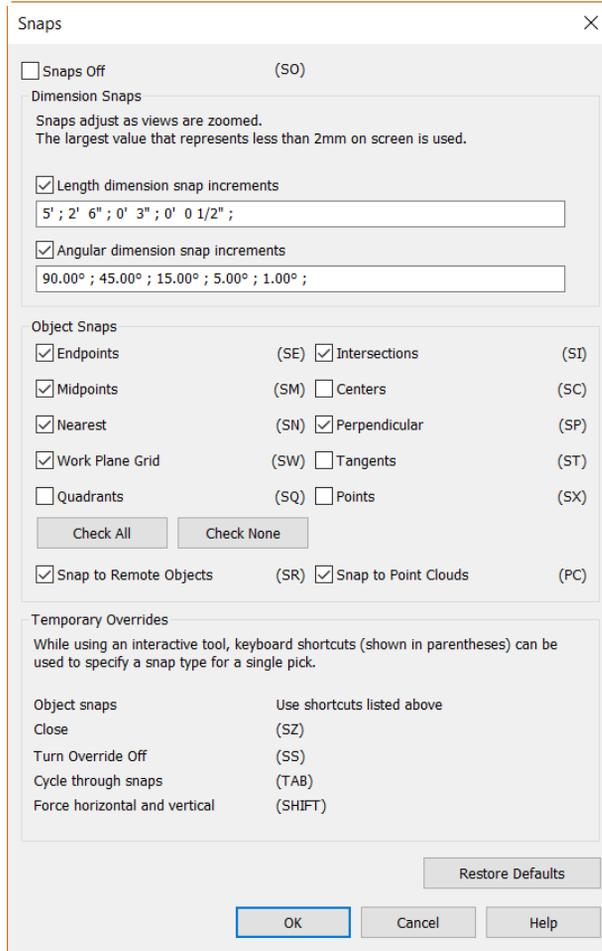

Figure 2-40 The **Snaps** dialog box
1. Choose the **Snaps** tool from the **Settings** panel of the **Manage** tab; the **Snaps** dialog box is displayed, as shown in Figure 2-40.